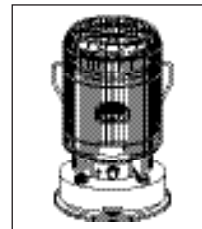

Fig.9
**G) Now your heater is completely assembled.(Fig. 9)**